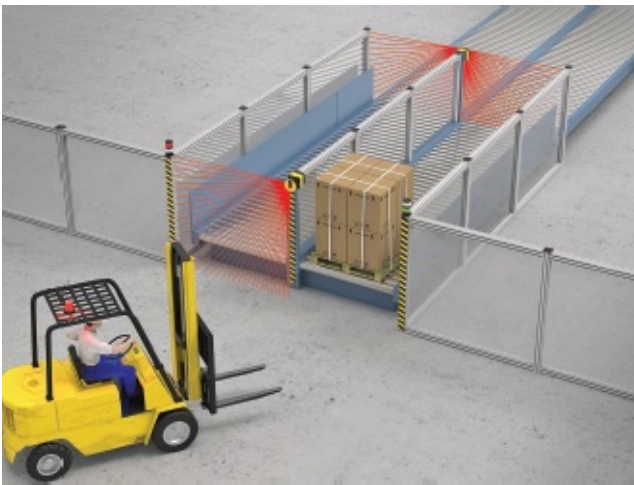

Figure 1-13 Safety laser scanner mounted on a transfer cart.
- A safety laser scanner can be mounted on an automated guide vehicle or transfer cart (Figure 1-13) to eliminate the risk of collisions with objects or people in its path. Page 9